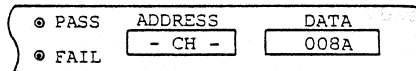

Fig. 3
- (7) Key in address X'008A'. The panel display gives the indication shown in Figure 3.